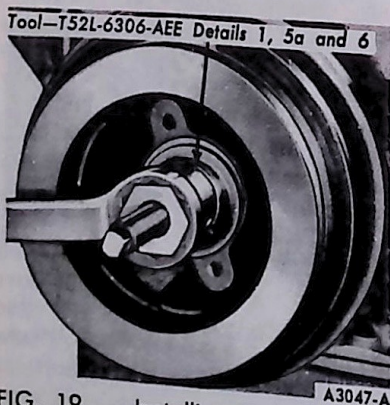

FIG. 19 Installing Damper
13. Clean and inspect the oil sealing surface on the crankshaft damper hub, following the procedures in Part 21-01. Apply Lubriplate to this surface. Align the damper keyway with the key on the crankshaft, then install the damper (Fig. 19).